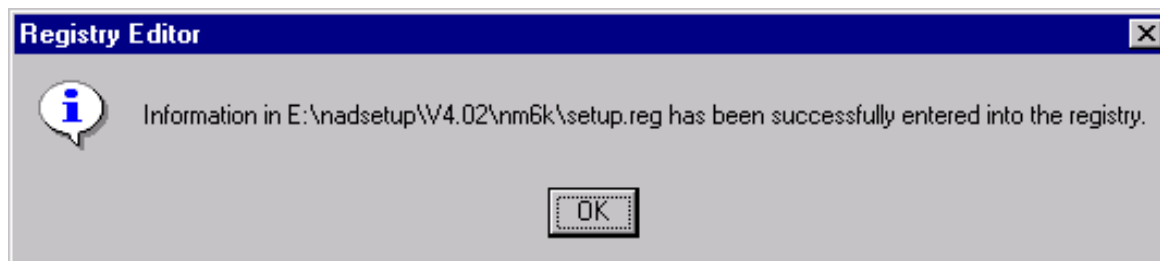

FIGURE 1-20. Registry Editor Dialog
1.41 Touch the 'OK' button for the Registry Editor Dialog. See FIGURE 1-20.